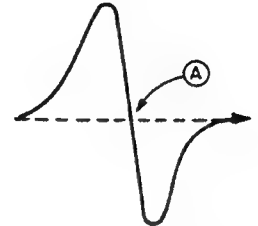

Fig. 4-8 S-Curve of the Focus
- At this time, the output voltage ① changes from negative to positive.
- Furthermore, the S-curve of the focus at this time changes according to Fig. 4-8 below.
The Focus Servo is applied with Point (A) of Fig. 4-8 as its operating point. The Focus Search operation is performed and the Focus Servo SW is set to ON while Point (A) of Fig. 4-8 is being crossed. In order to also prevent malfunction, the logical product of the operation and the Focus OK signal is obtained.